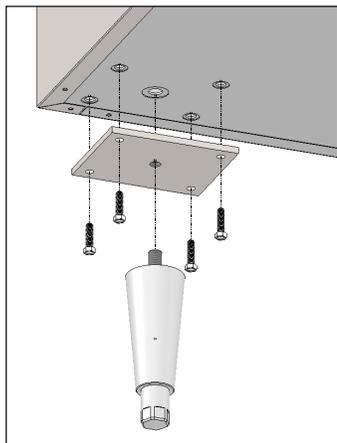

Fig. 1. Install the mounting plate and leveling leg.
4. Thread the leveling legs into the mounting plate. See fig. 1.